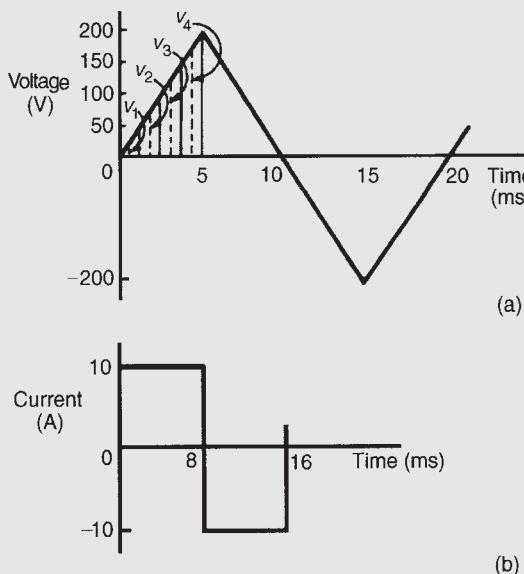

Figure 14.5
**Problem 4.** For the periodic waveforms shown in Fig. 14.5 determine for each: (i) frequency (ii) average value over half a cycle (iii) r.m.s. value (iv) form factor and (v) peak factor.
(a) **Triangular waveform** (Fig. 14.5(a)).
- (iii) In Fig. 14.5(a), the first 1/4 cycle is divided into 4 intervals. Thus
(b) **Rectangular waveform** (Fig. 14.5(b)).